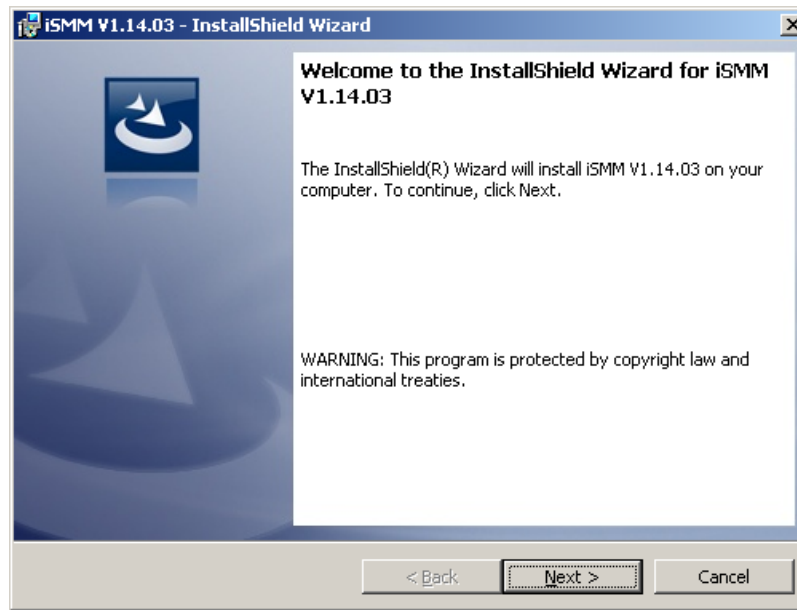

Figure 6-39: iSMM Installation Welcome Screen
Step 4: The welcome screen in Figure 6-39 appears.